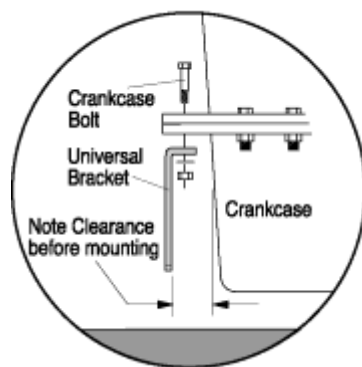

Figure 4A
1. Install the universal bracket to the crankcase using the existing crankcase bolts (Figure 4A). Crankcase bolt diameter must be no larger than 7/16 inch (11 mm).